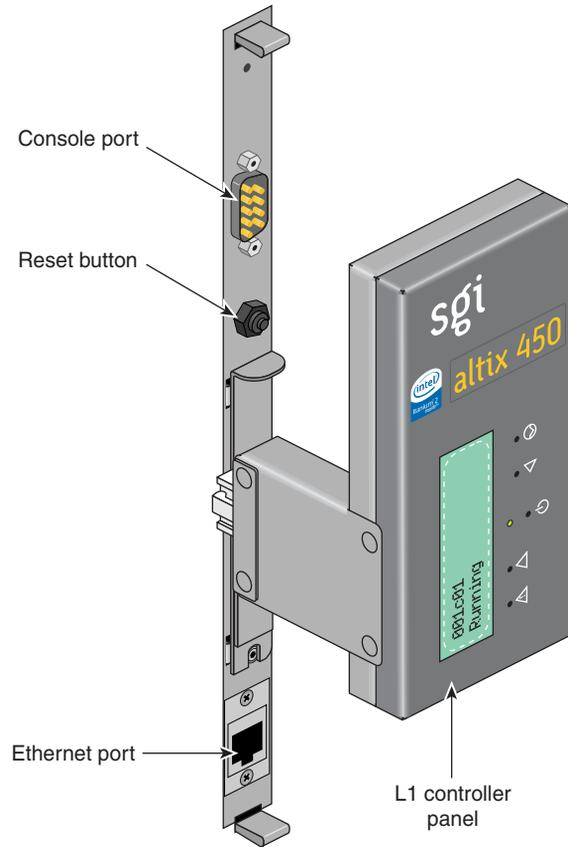

Figure 1-18 Location of the L1 Console Port
To attach a PC to your server system, connect a null modem serial cable between the PC and the Console port of the IRU (see Figure 1-18). To establish a connection between your system and the system console (PC), follow these steps: